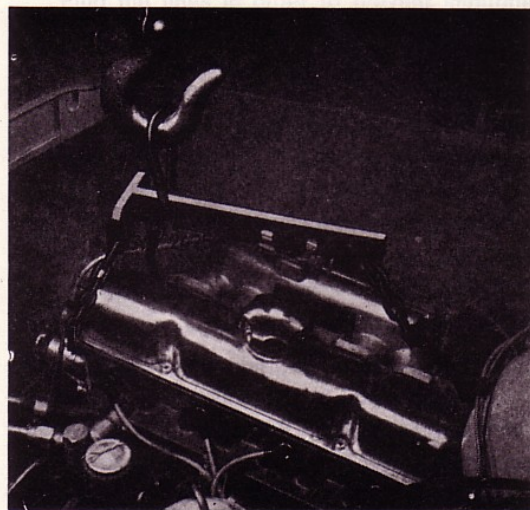

Fig. 9. Lifting out the engine
20. Fit on lifting tool SVO 2425 according to Fig. 9 and lift out the engine.
1. Fit on lifting tool SVO 2425 according to Fig. 9.